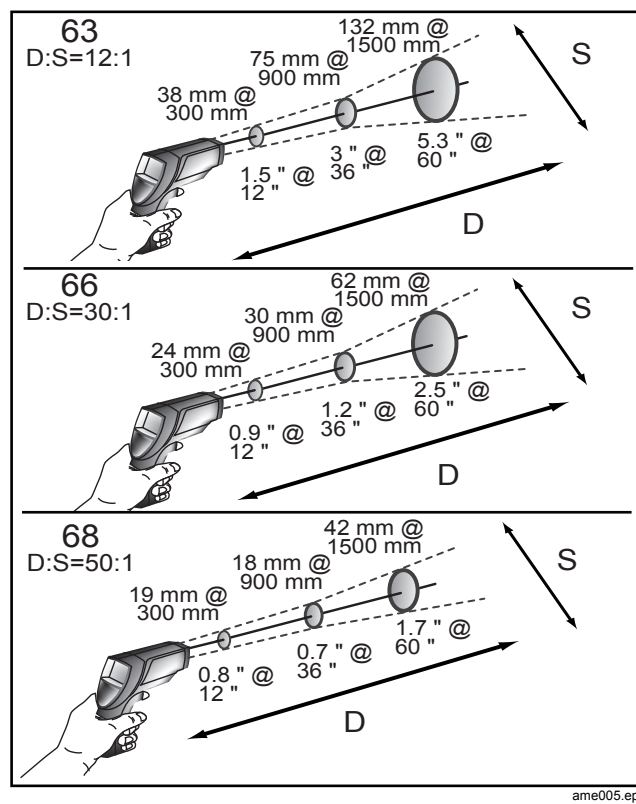

Figure 5. Distance and Spot Size
As the distance (D) from the object being measured increases, the spot size (S) of the area measured by the unit becomes larger. The relationship between distance and spot size for each unit is shown in Figure 5. The focal point of each unit is 914 mm (36 in). The spot sizes indicate 90 % encircled energy. See Figure 5.